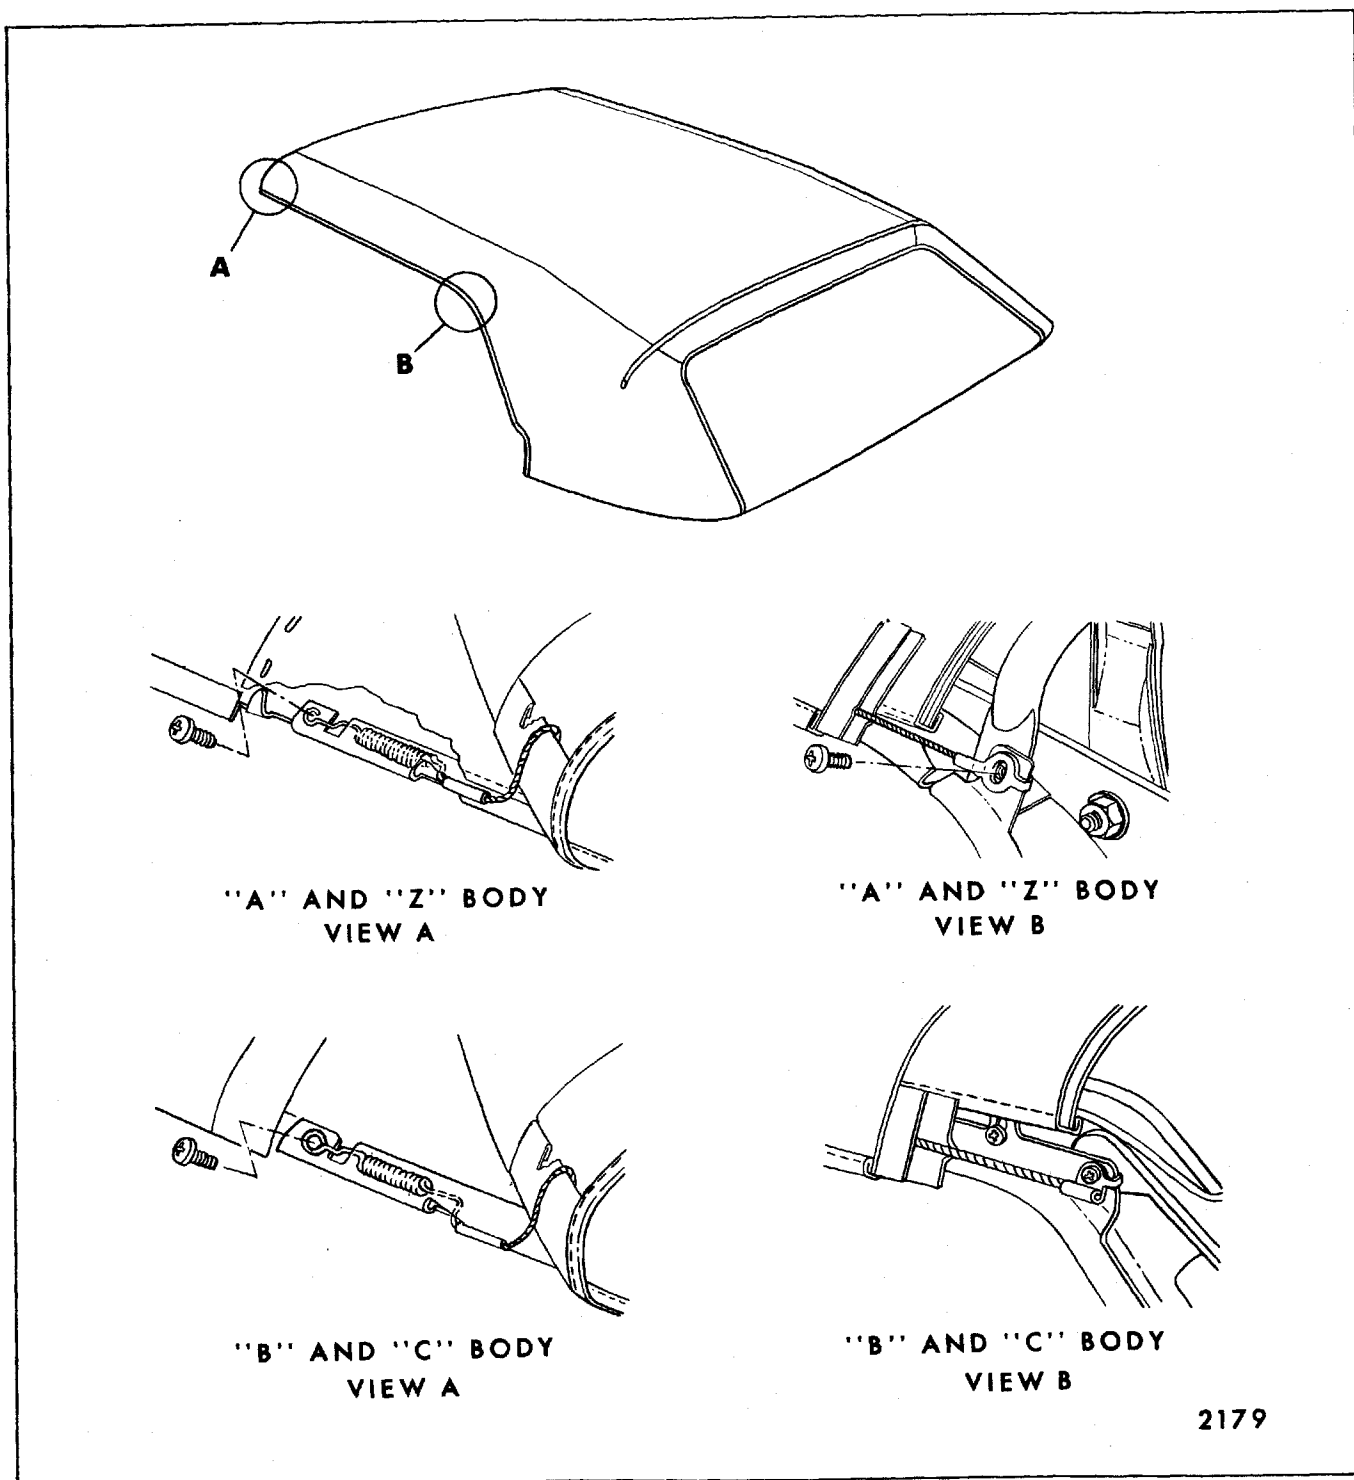

Fig. 6-3—Convertible Top Material Hold Down Cable
13. At right and left side roof front and rear rails, remove hold-down cable front and rear attaching screws. (See Views "A and B" in Fig. 6-3.)